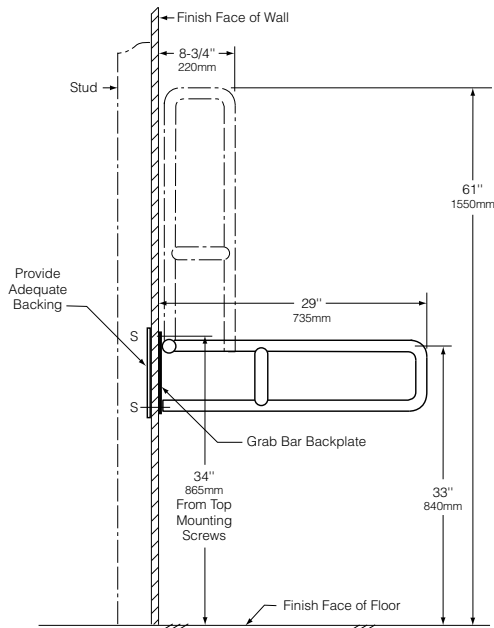

Figure 1
3. Install adequate backing in wall at locations indicated in Figure 1. Allow for either #14 size screws, or in the case of steel backing 1/4-20 stainless steel screws of adequate length (neither are furnished by Bobrick). The steel backing must have a minimum thickness of 3/16" (5mm) and screw holes be drilled and tapped.
1. Use inserts (lead shields or equivalent) for #14 screws (not furnished by Bobrick) and mount at height indicated in Figure 1 or per local code, using grab bar back plate as template to mark mounting screw hole location.